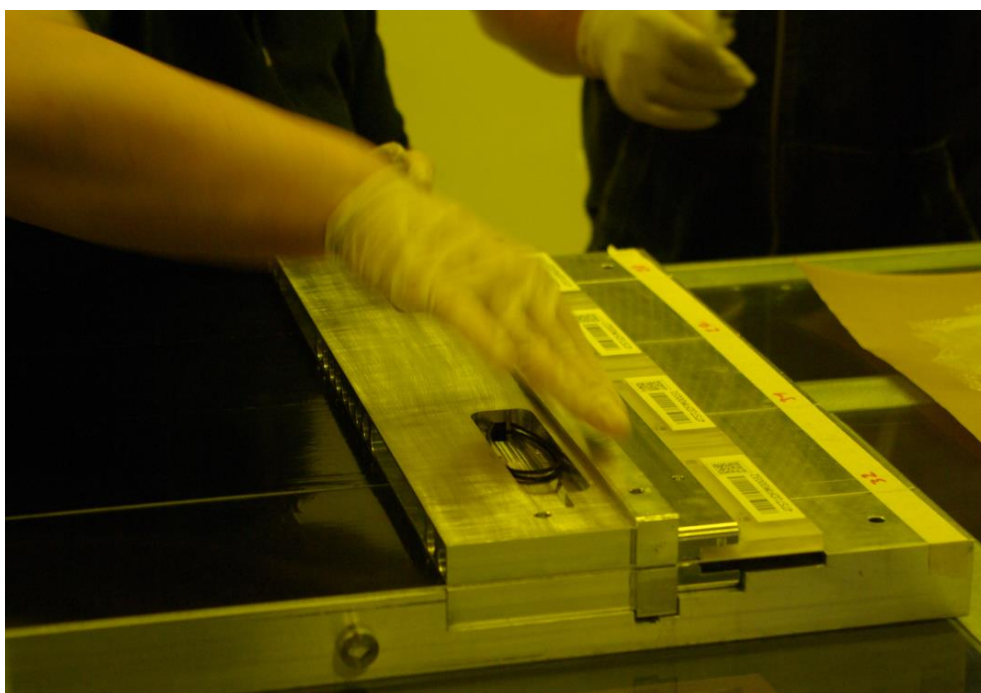
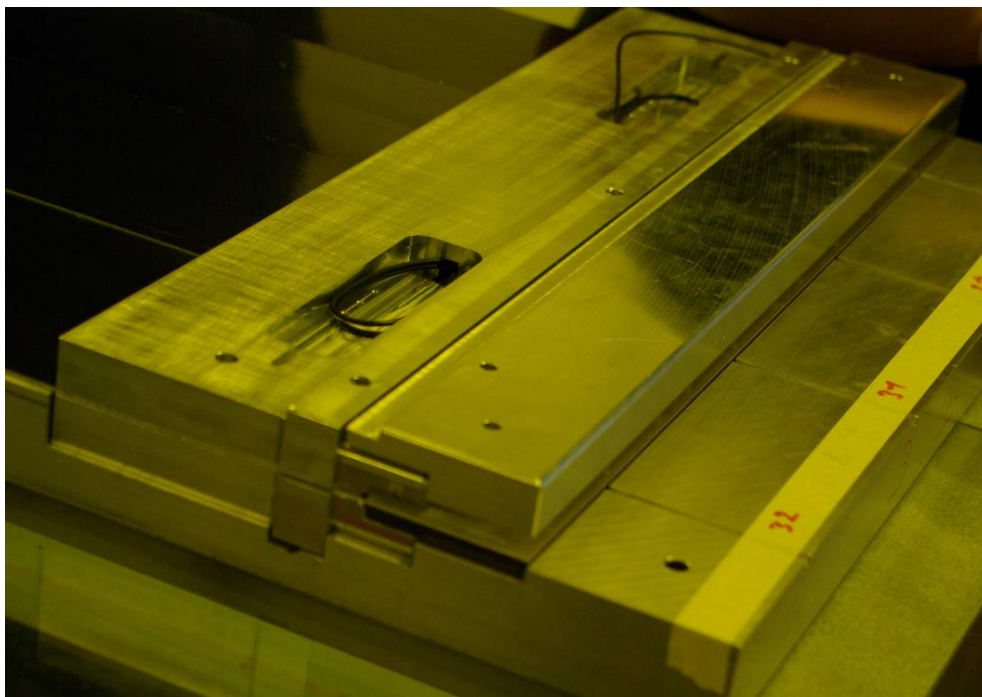
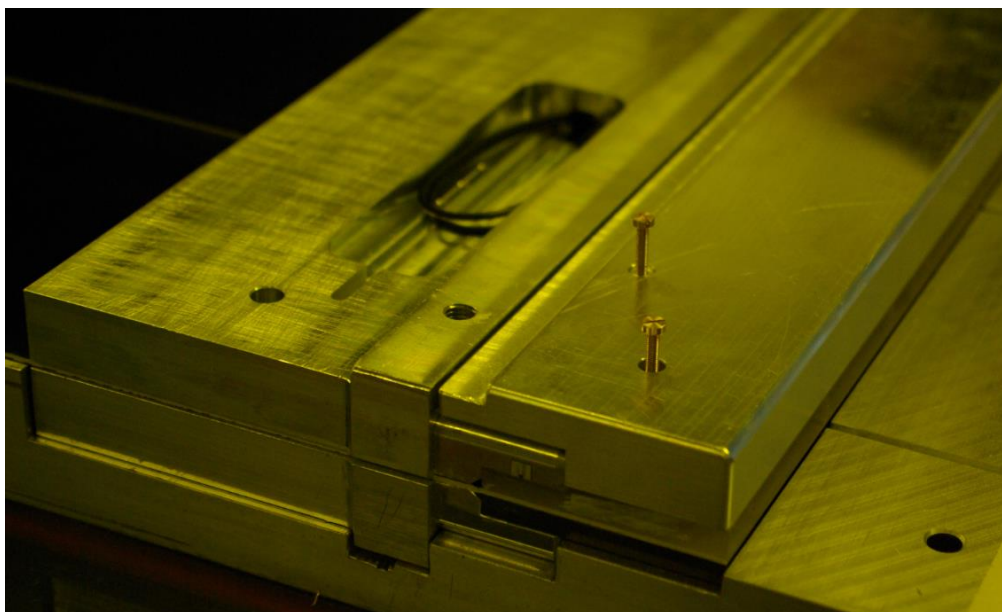

Figure 41 Endplug on mats
Figure 42 Bridge “HE_LHCB_SCIFI_VOR_GJ_0080204_P_0_ABSTECKVORRICHTUNG-EPiece-EPlug”
Figure 43 Insure proper fitting of the dowel pins into the endplugs and endpieces
5.1.4.8 Place endplugs (Figure 41) and align with bridges
“HE_LHCB_SCIFI_VOR_GJ_0080204_P_0_ABSTECKVORRICHTUNG-EPiece-EPlug” to the endpieces and dowel pins 4 x Ø6x20/M3 and 4 x Ø6x13/M3. After the dowel pins are well placed, remove the M3 screws. (Figure 42 and Figure 43)
Note: on Figure 41 and Figure 42 you can see tape on the jig with ending numbers of the mats written on it to remind the respective positions of the mats after the record and dry assembly)